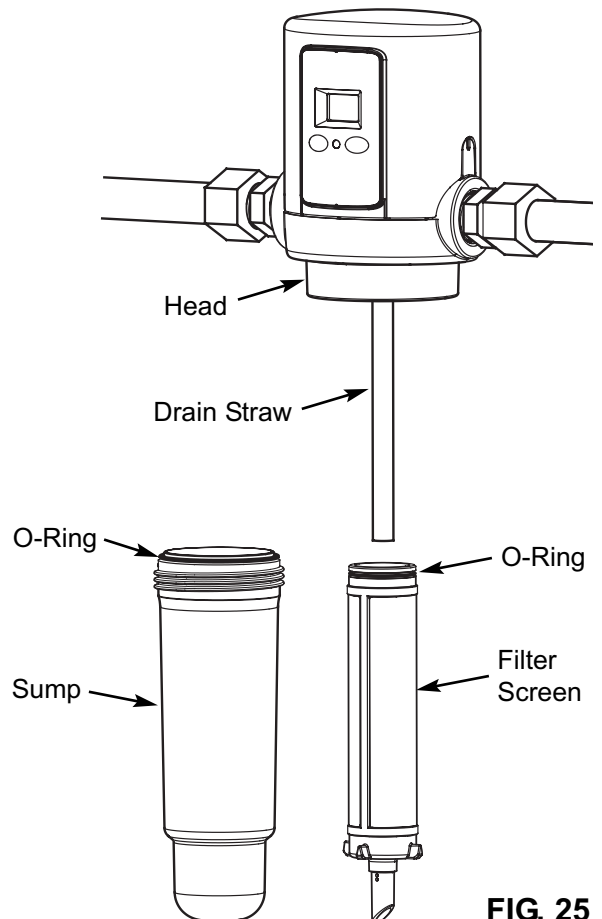

FIG. 25
5. Remove the filter screen assembly by pulling it down out of the ASF head (See Figure 25).
7. The drain straw may have come out of the ASF head when the sump and filter screen were removed. If so, reinsert it into the small hole at the center of the head assembly (See Figure 25).
8. Make sure the o-ring is in place on the filter screen assembly (See Figure 25). Make sure that no sediment particles are on the o-ring or the corresponding sealing area in the head. Slide the filter screen over the drain straw and into the corresponding hole at the center of the ASF head. Push it in to engage the o-ring seal.
9. Make sure the large o-ring is in place on the sump (See Figure 25). Make sure no sediment particles are on the o-ring, sump threads or corresponding threads in the ASF head. Slide the sump over the filter screen and screw it into the ASF head to seal. Do not overtighten.